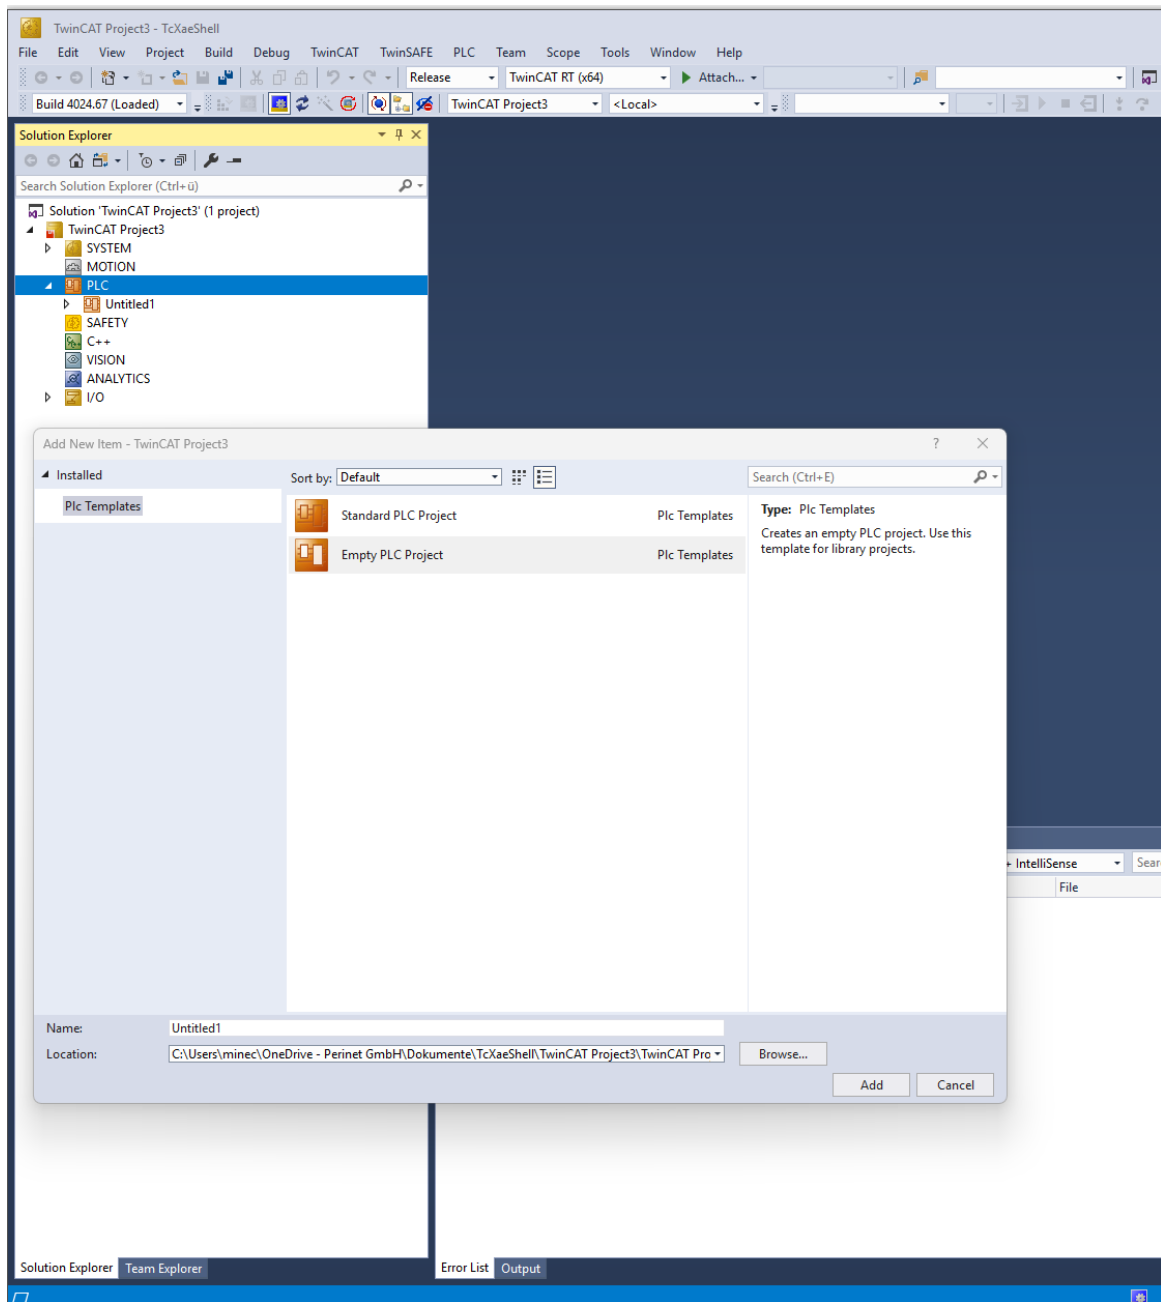

Figure 7: Create a PLC Project
- Now, you need to right-click on the PLC on the Solution Explorer to add an “Empty PLC Project” template for library projects as seen in Figure 7